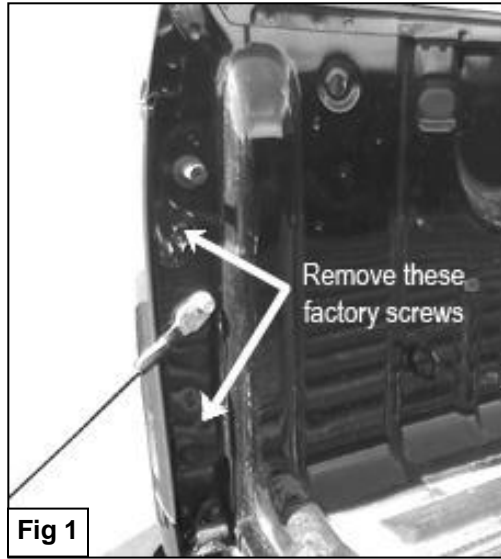

Fig 1
3. Open the rear door and remove the passenger side screws holding the taillight housing (**Figure 1**).